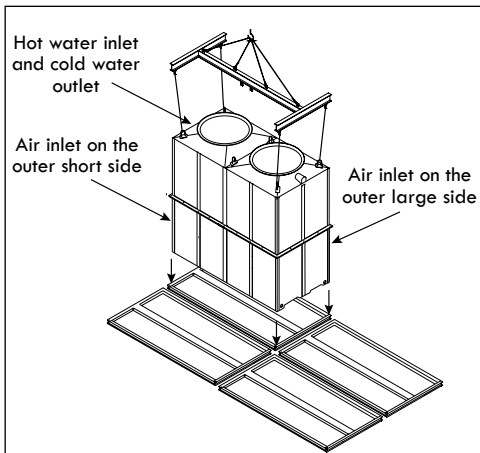

Figure A-75: X-Orientation - First T2 module lifting and installation (RTM or RTPM Models)
- A. Once the basin and body sections have been assembled, lift the Tower using a crane and a spreader bar and place it on top of the isolation pad and the steel base structure (see figure A-75).
- B. Make sure that the water inlet and outlet are facing outward, and the sides without air inlets (louvers) are facing inward. Secure it with the stainless steel nut and bolts sets (supplied by others) as shown on Figure A-75.